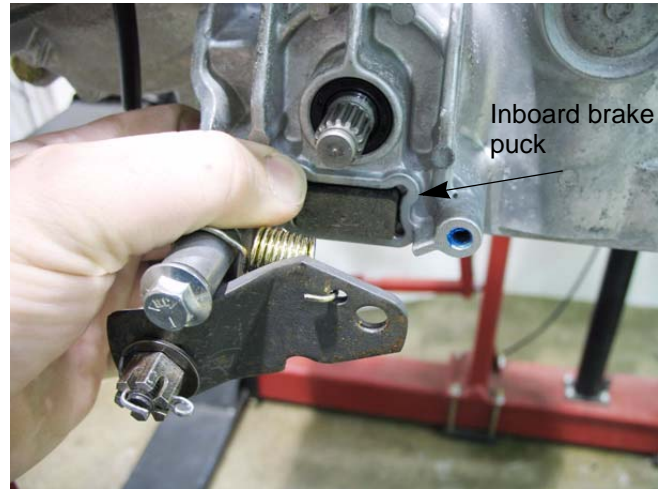

Figure 3.10
7. Slide the brake rotor off to reach the inboard brake puck. See Figure 3.10.